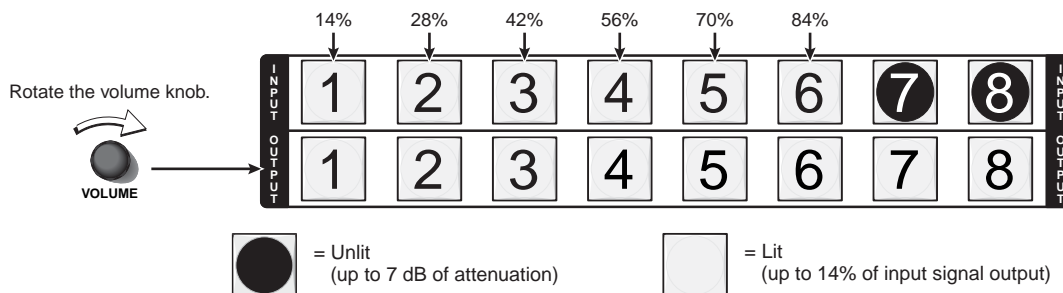

Figure 3-41 — Adjust the output audio volume
4. Slowly rotate the volume knob clockwise (figure 3-41). Note the output button indication changes that occur as you rotate the knob.
Figure 3-41 shows the result of increasing the audio volume level by a total of up to 56 percent.